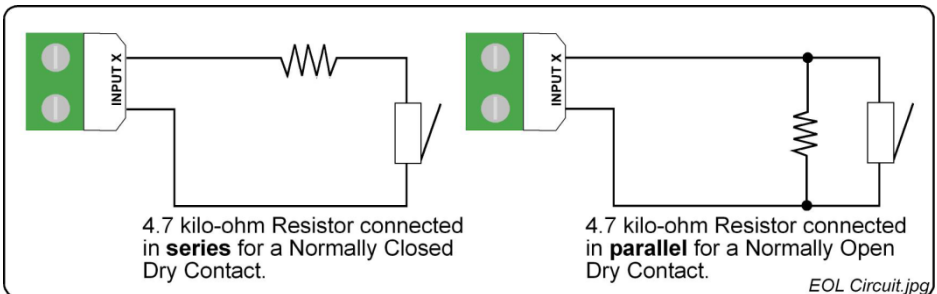

Figure 1: Options for End-of-line (EOL) Sensing
NOTE: *Connect the Digital Inputs to either a Normally Open or Normally Closed Dry Contact. You may then individually configure these Inputs to have End-of-line (EOL) Sensing in the Software. The ImproX I16 implements End-of-line (EOL) Sensing where one 4.7 kilo-ohm resistor is used. Figure 1 shows the recommended connection of the resistor for Normally Closed (NC) and Normally Open (NO) contacts. For Normally Closed Dry Contacts, connect the 4.7 kilo-ohm Resistor in SERIES with the contact. For Normally Open Dry Contacts connect the Resistor in PARALLEL with the contact. Mount the 4.7 kilo-Ohm resistor as close as possible to the Dry Contact (not at the ImproX I16) for effective End-of-line (EOL) Sensing. This method of End-of-line (EOL) Sensing senses a “Door Closed” event. An input shorted, input cut or door open will all yield a “Door Forced” event. That is the Software will not distinguish between a tamper condition (cut or shorted Input) and a normal door open event.*